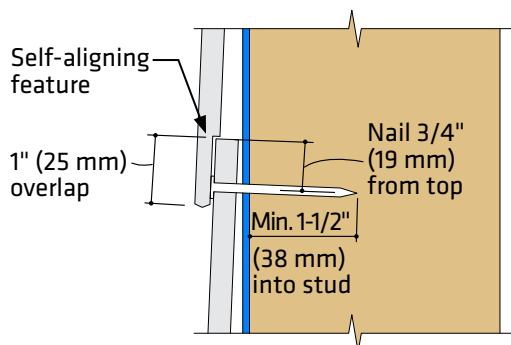

Figure 2c
- Siding shall be installed with top (blind) nailing, with the nails placed 3/8 inch (10 mm) from either end and a minimum of 3/4 inch (19 mm) from the top edge of the board. (Figure 2c)
- Overlap successive courses of siding a minimum 1 inch (25 mm) using the SmartLock self-aligning feature. (Figure 2c)